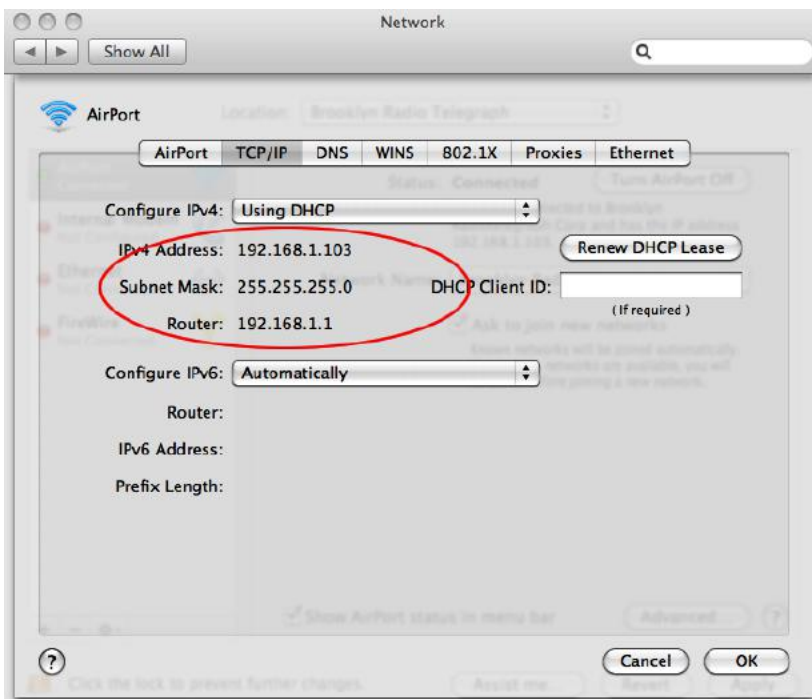

Figure 6-4. The Advanced Network preferences panel in Mac OS X.
6. You will see your Router address, which is indeed 192.161.1.1, as shown in Figure 6-4.